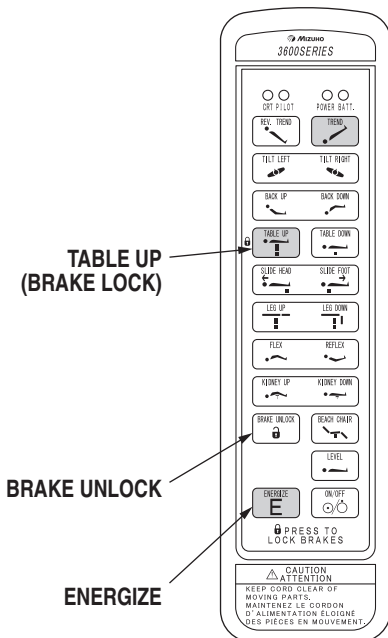

Figure 2-6. Brake System Activation
a. Floor Lock/Brake System To activate the brakes without affecting table positioning, press the ENERGIZE button and then the TABLE UP button. See figure 2-6. The elevation cylinder will not function until the brakes are completely extended.
Press the ENERGIZE button and then the BRAKE UNLOCK button on the pendant control to release the four self-leveling brake feet in order to move the table. See figure 2-6. The brake delay circuit automatically retracts the brake system. It takes approximately 7-8 seconds to totally release the system.